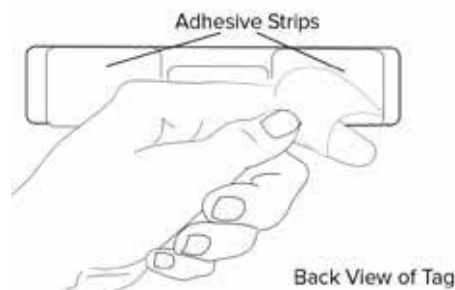

Figure 23 Removing adhesive strip backing
5. Remove the backing from both of the adhesive strips located on the back of the tag, as shown in Figure 23.